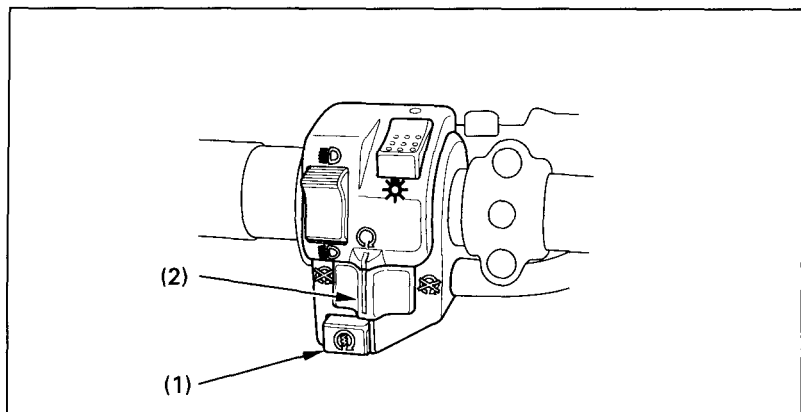

Fig. 2-7
The starter button (Fig. 2-7) is below the engine stop switch. To start the engine, press the starter button (1), with the transmission in neutral, the ignition switch ON (I) and the engine stop switch (2) at RUN (O).